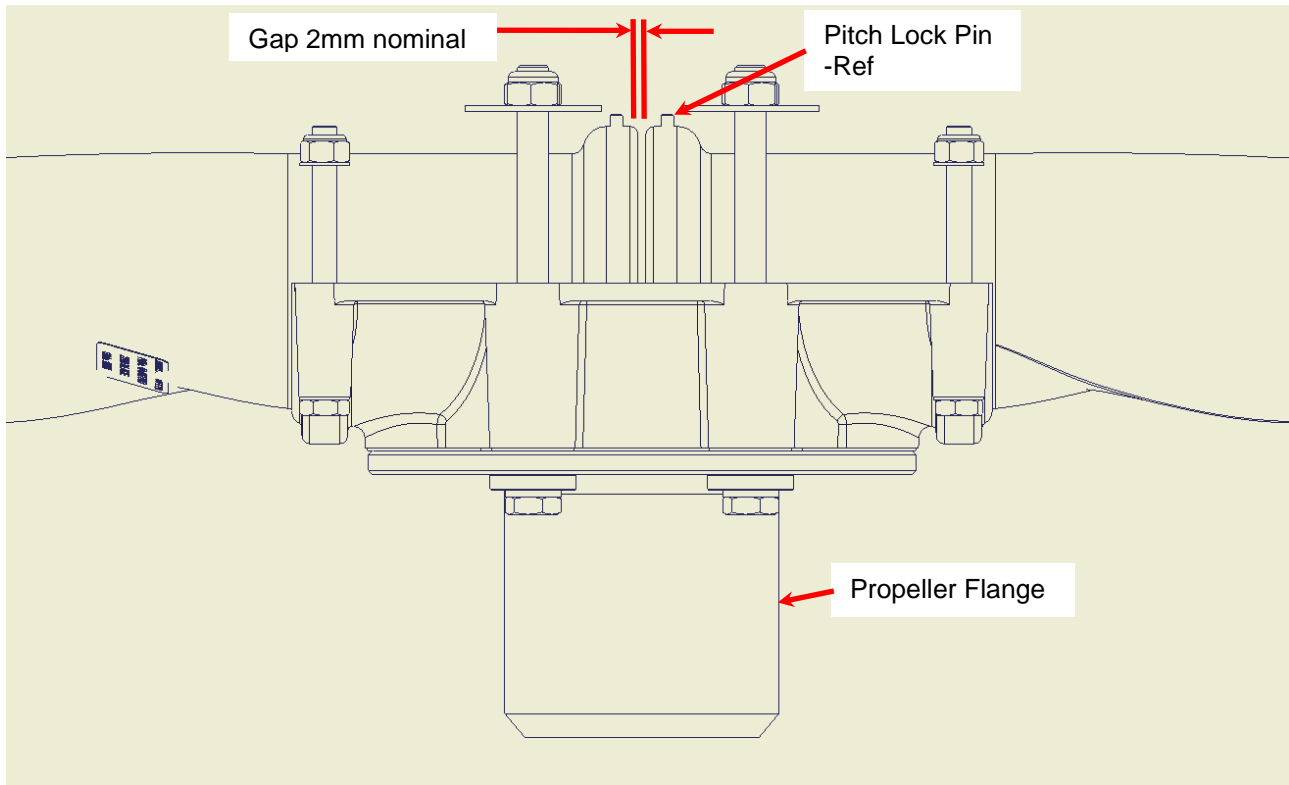

Figure 6 – Blade Assy Detail (View from beside hub, front hub not shown)
2. Fit the two blades to the hub. By design there is a small space between the inner ends of the two blades (Figure 6). Care must be taken to ensure that the blades are positioned with their retaining shoulders hard against the matching shoulders of the hub (i.e. with the gap between blades as large as possible). Failure to achieve this can result in one blade being positioned differently to the other, resulting in an out of balance condition and increased vibration. A small square of 3mm thick foam can be attached to the root of one blade using clear adhesive tape to act as a spacer between the two blades.